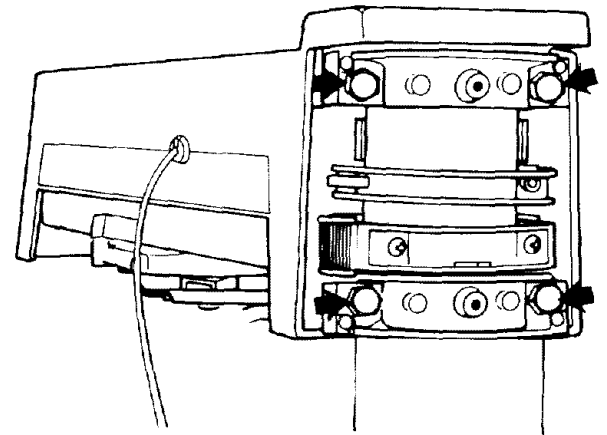

Fig. 153 - Location of Hex Head Screws
2. With a 9/16 inch wrench or socket, tighten evenly the top two 3/8-16 hex head screws. The bottom two screws should also be tightened evenly but not as tight as the top screws. (Figure 153)